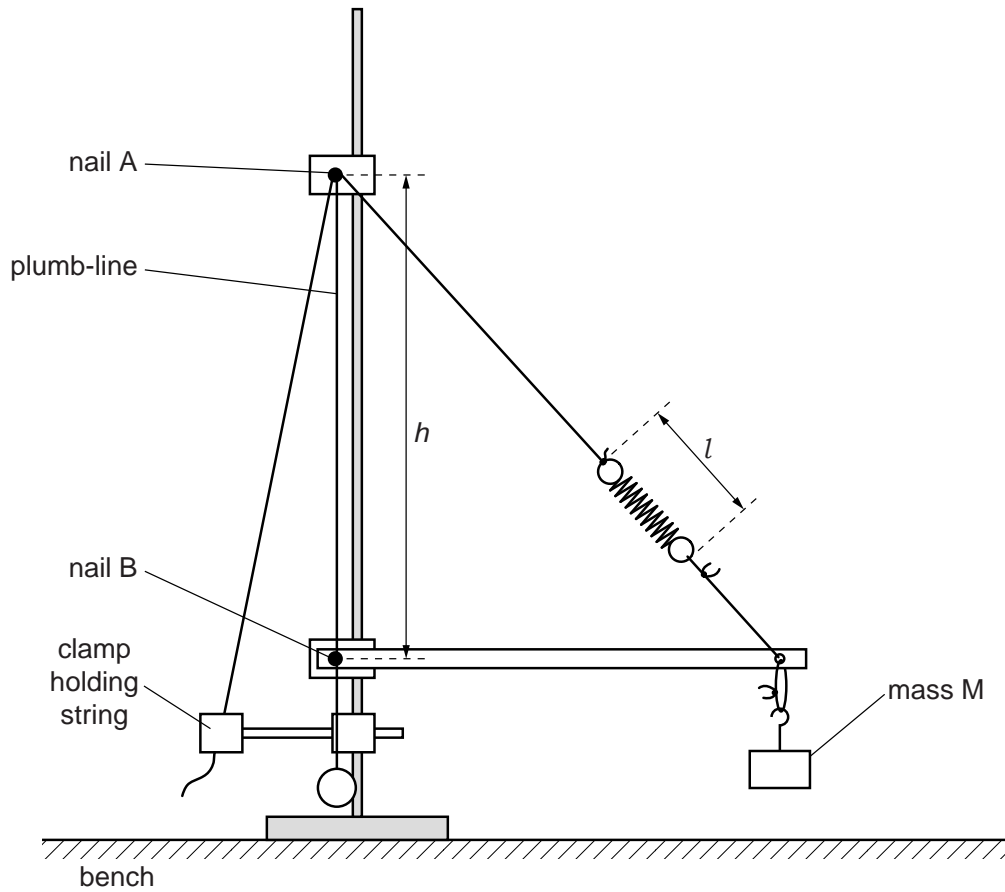

Fig. 1.3
- (ii) Use the plumb-line to ensure that nail B is vertically below nail A, as shown in Fig. 1.3.
- (iii) Measure and record the distance h between the two nails, and the length l of the spring, as shown in Fig. 1.3.